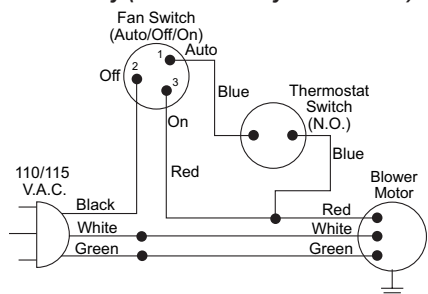

Figure 17 - Wiring Diagram For Blower Accessory Standard Installation
- Carefully disconnect green and white wires at their insulated connectors (see Figure 17).